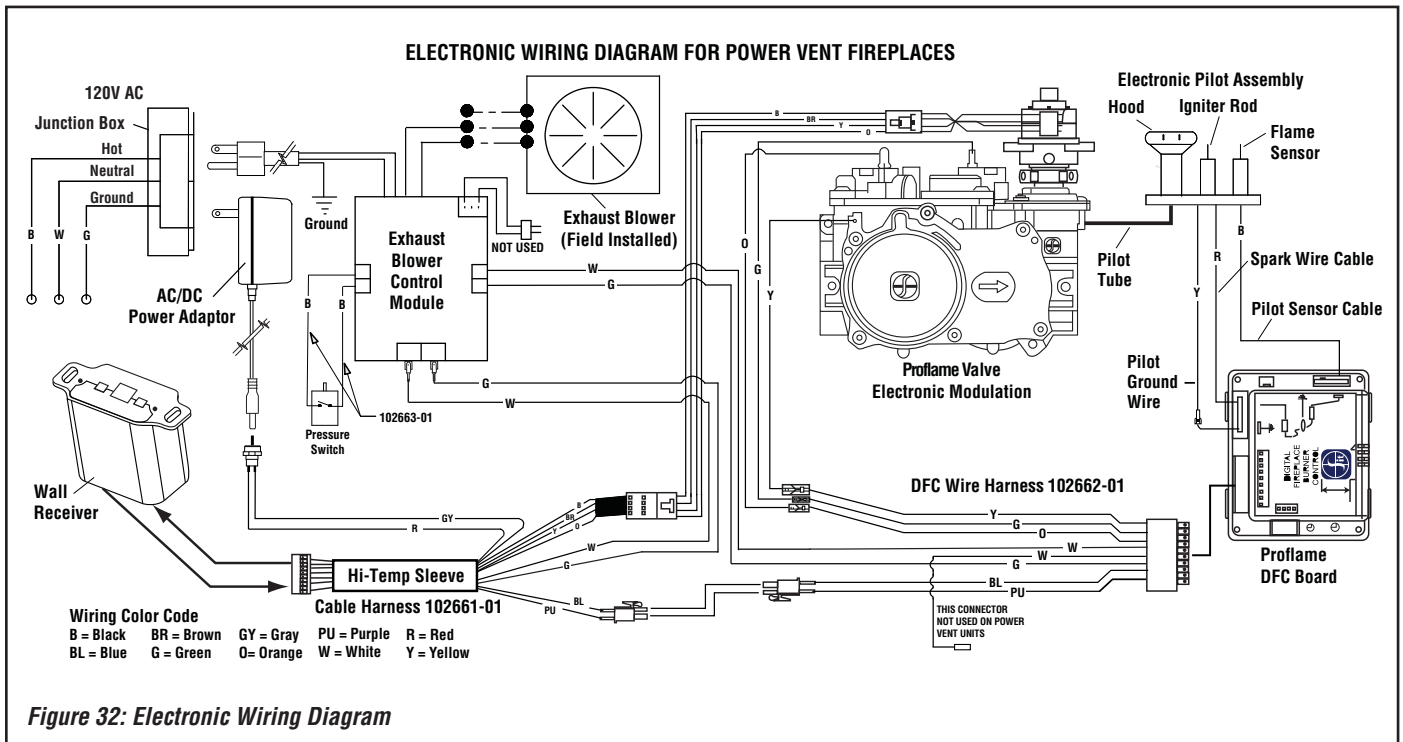

Figure 32: Electronic Wiring Diagram
CAUTION: Ground supply lead must be connected to the wire attached to the green ground screw located on the outlet box. See *Figures 32 and 33 on Page 22*. Failure to do so will result in a potential safety hazard. The appliance must be electrically grounded in accordance with local codes or, in the absence of local codes, the National Electrical Code, ANSI/NFPA 70-latest edition (In Canada, the current CSA C22-1 Canadian Electrical Code).
Wiring: Fireplace (See Figures 32 and 33 on Page 22)
- Refer to Figure 32 on Page 22 and install the electrical hardware on the fireplace end of the Romex wiring. Male terminals (#10) on the Black and White wires, and ring terminals (#9) on the ground wire. The termination end of the Romex will be connected to the termination with wire nuts (not provided).